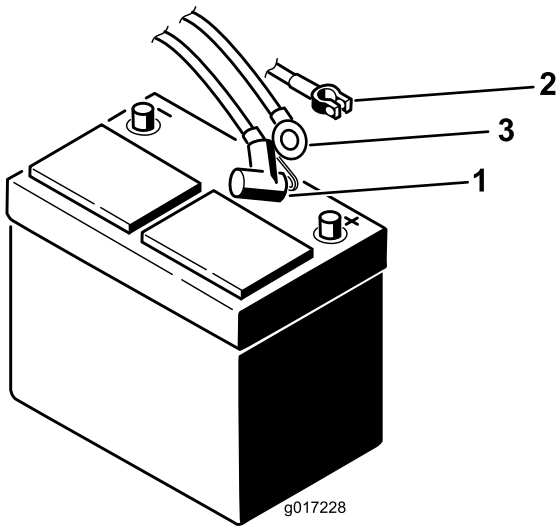

Figure 17
6. Remove the nut from the positive battery clamp (Figure 17).
7. Insert the positive wire from the lift and the ring terminal end of the red wire from the front harness onto the cable clamp screw and loosely secure it with the nut previously removed (Figure 17).